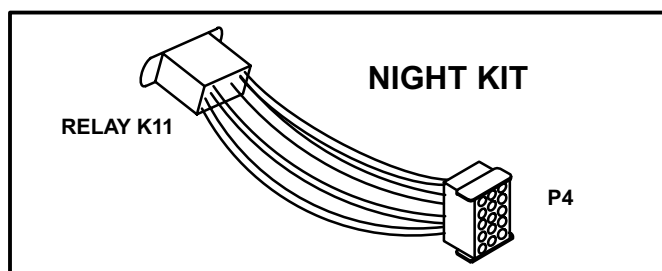

FIGURE 85
- 9- C11-1 -- Standard 2heat/2cool thermostat for all commercial units without economizer or warm-up. C11 Night Kit adds a relay facilitating night setback function (see figure 85). CMC3-1 clock and night thermostat must also be added to make setback relay functional.